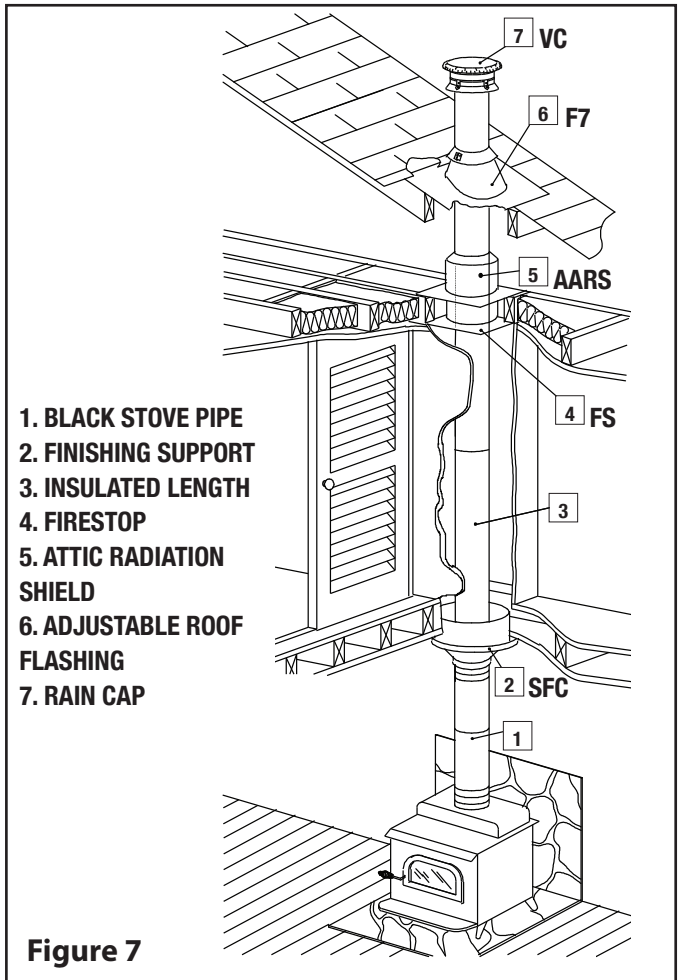

Figure 7
Step 4. Put the first chimney length in the support. Turn it clockwise to lock it in place (see Figure 7).
Step 5. Install a Firestop Plate (FS) in each floor through which the chimney passes.